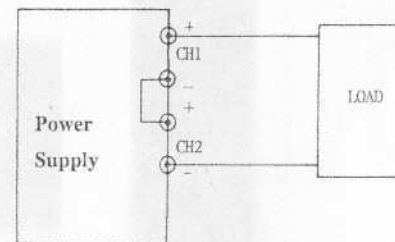

Fig. 5-3 Single Supply
- E. If "single supply" operation is desired, this allows the power supply to be used as twice the voltage and rating current simply by using the negative (black) terminal of the CH2 supply and the positive (red) terminal of the CH1 supply, the configuration as shown in Fig. 5-3.